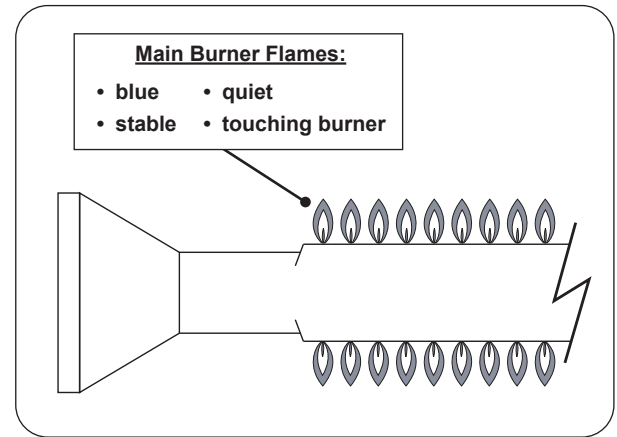

Fig. 39-1 Proper flame appearance
Note: To verify proper settings, the flames of the burners should be visually checked for proper flame appearance and behavior. Light the grill with the burner(s) on HI setting. Allow at least 2 minutes to burn. See below and Fig. 39-1. The flames should:
2. After burning for two minutes, open the air shutter **using the adjustment lever** until the flames lift off, or appear not to be touching the burner (Fig. 39-1).